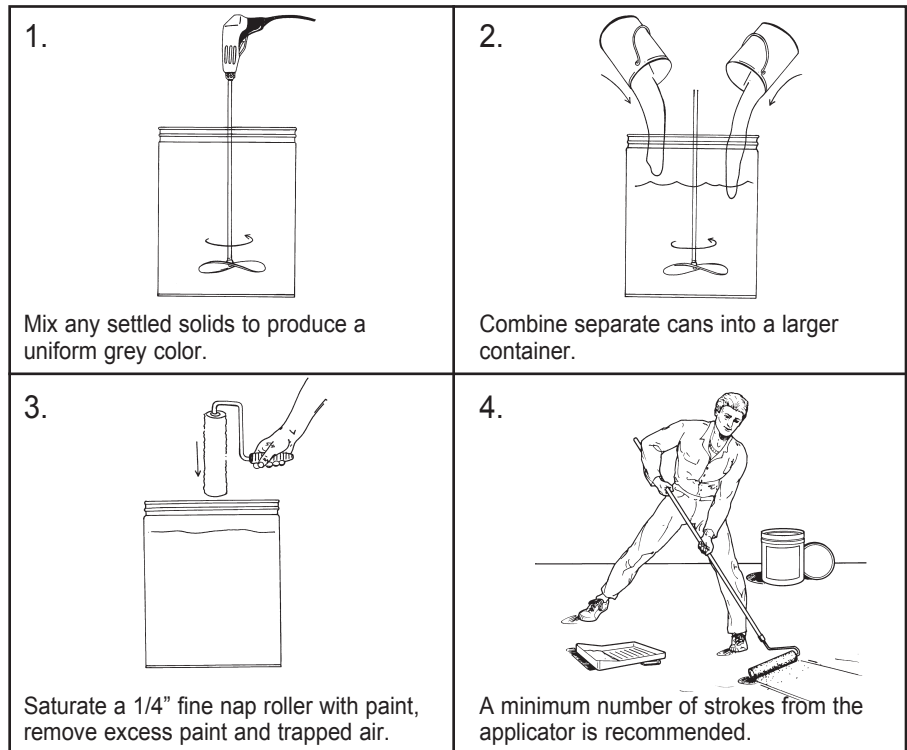

Figure 2. Paint application with roller.
1. Mix paint thoroughly before use (See Figure 2) using a 500-1500 RPM variable speed drill and paint mixing attachment or a paint mixer.